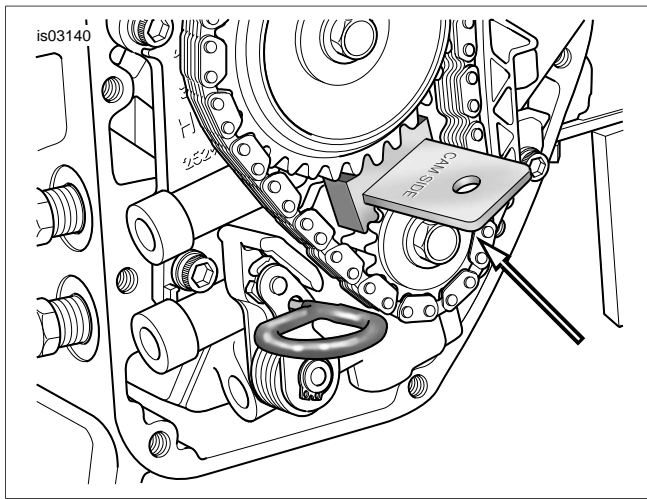

Figure 7. Camshaft/Crankshaft Sprocket Locking Tool
- f. See Figure 7. Position Camshaft/Crankshaft Sprocket Locking Tool (HD-42314) between the crank and primary cam sprockets to prevent rotation. The handle of the tool is stamped "Cam" and "Crank" to ensure proper orientation.